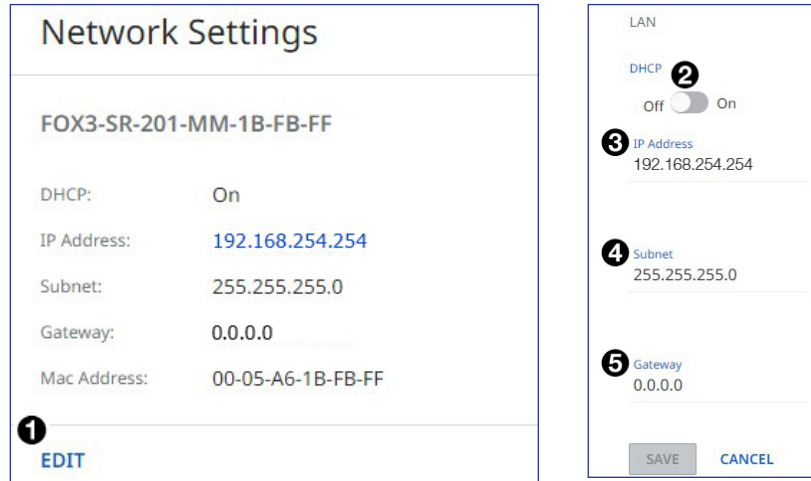

Figure 36. Network Settings Panel
1. Click **EDIT** (see figure 36 [left], 1) in the **Network Settings** panel. The **Network Settings** panel opens to allow edits (right).